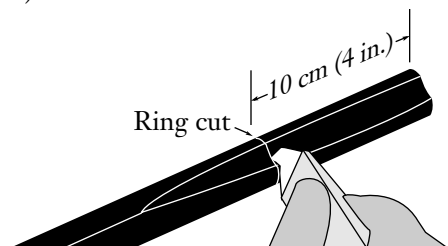

Figure 8
4.10 Use the hook blade knife to make a ring cut through the outer sheath 10 cm (4 in.) from the end of the cable (Figure 8).